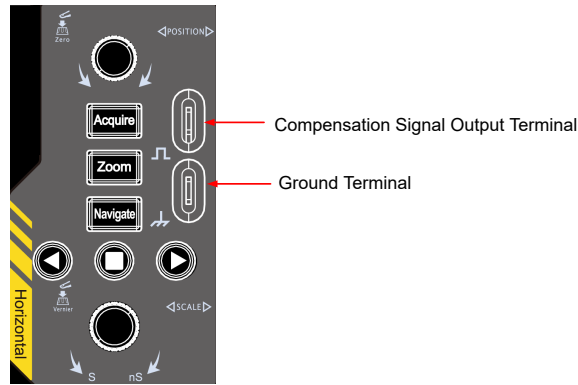

Figure 5.9 Use the Compensation Signal
2. Connect the ground alligator clip of the probe to the "Ground Terminal" as shown in Figure 5.9.
3. Use the probe to connect the input terminal of CH1 of the oscilloscope and the "Compensation Signal Output Terminal" of the probe, as shown in Figure 5.9.